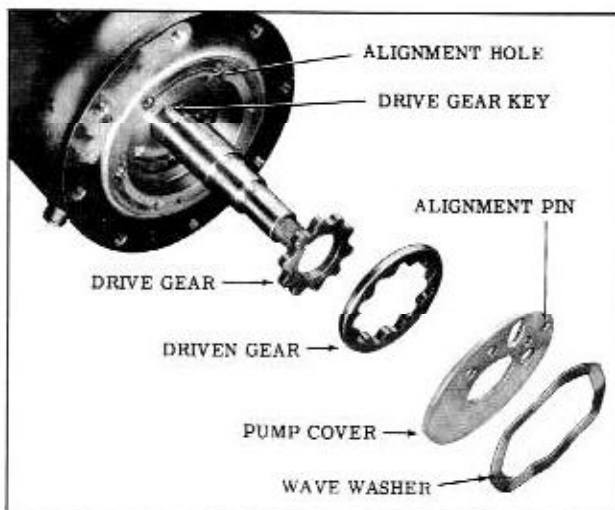

Fig. 14-34 Oil Pump Assembly
9. Remove oil pump plate and gears for inspection (Fig. 14-34)
1. Lubricate pump gears with Frigidaire 1000 oil and install as shown in Fig. 14-34.